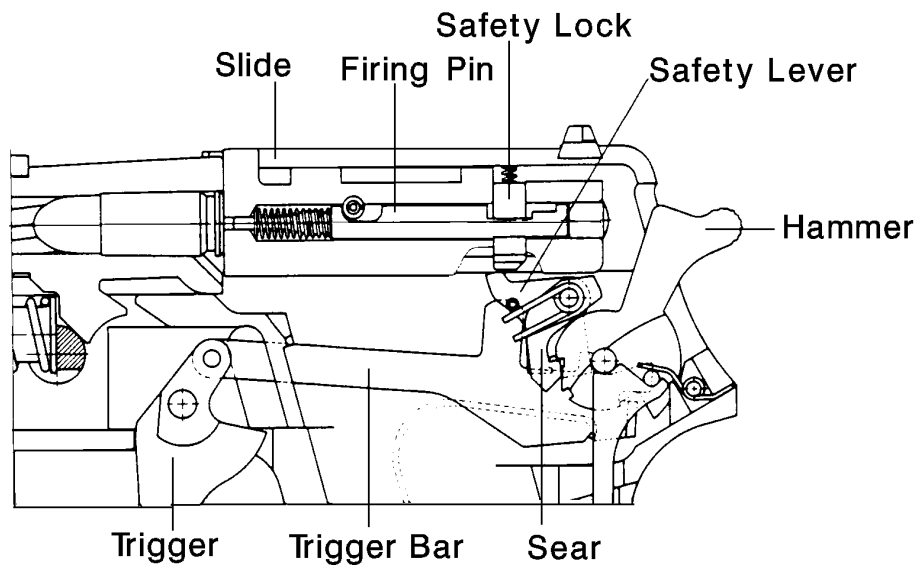

Figure 9 - Function of the Firing Pin
- d. Firing Pin Safety Lock. (See Figure 9) The firing pin is locked in the slide by the safety lock. When the trigger is pulled, the trigger bar pivots the safety lever to raise the safety lock and free the firing pin immediately prior to releasing the hammer. When the trigger is pulled in the single-action mode, the trigger bar is drawn forward, pivoting the safety lever which lifts the safety lock to free the firing pin, and moves the sear to release the hammer. After each shot, the firing pin spring retracts the firing pin, allowing engagement of the safety lock during each cycle of operation.